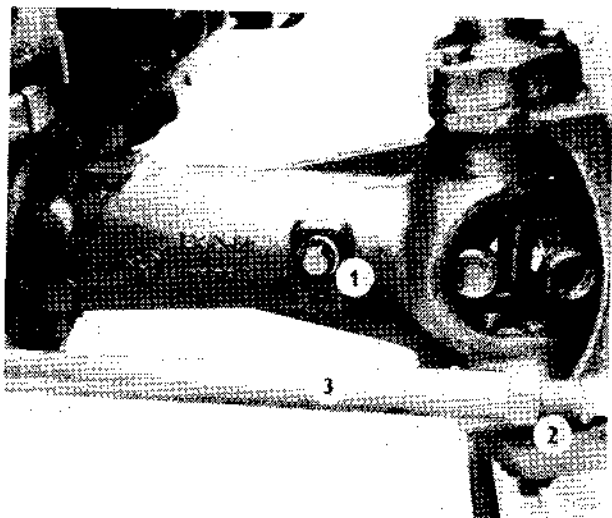

Fig. 14
18. Front drive axle oil filling hole (Fig. 14/1).